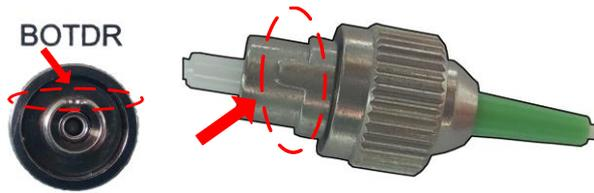

Figure 8-4 Groove of BOTDR interface and protrusion of FC/APC fiber interface
Step 2: Connect the optical connector of the fiber under test to the BOTDR interface. As shown in Figure 8-4, there is a groove at the BOTDR optical interface, and a protrusion at the FC/APC fiber connector, align with the groove at the BOTDR interface with the protrusion at FC/APC fiber connector.